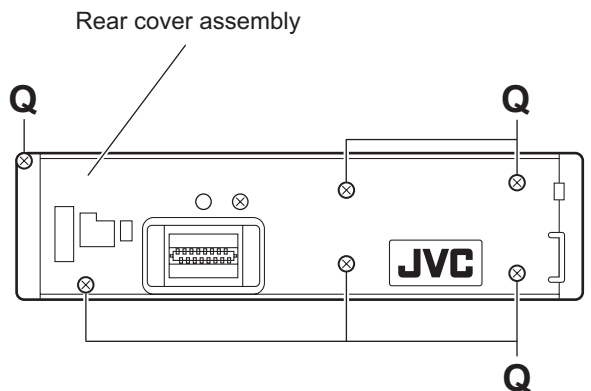

Fig.14
### 3.1.9 Removing the switch board (See Figs.14 to 16)
- (1) From the rear side of the front panel assembly, remove the six screws **Q** attaching the rear cover to the front panel assembly. (See Fig.14)